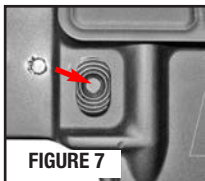

FIGURE 7
- When you inspect your rifle, you should first check for yourself to ensure that it is unloaded. To do this, grasp the rifle with your finger off the trigger and outside the trigger guard, point the muzzle in a safe direction, depress the magazine release and remove the magazine (FIGURE 7).